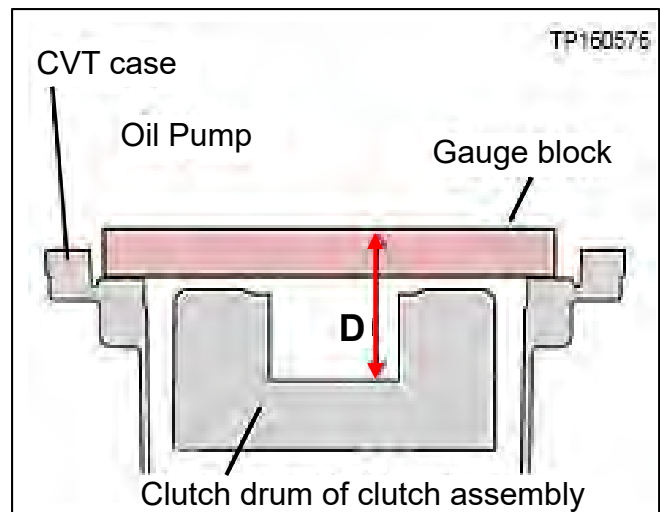

Figure 111
92. Calculate the average (D) clutch assembly bore depth (Figure 111) as follows: